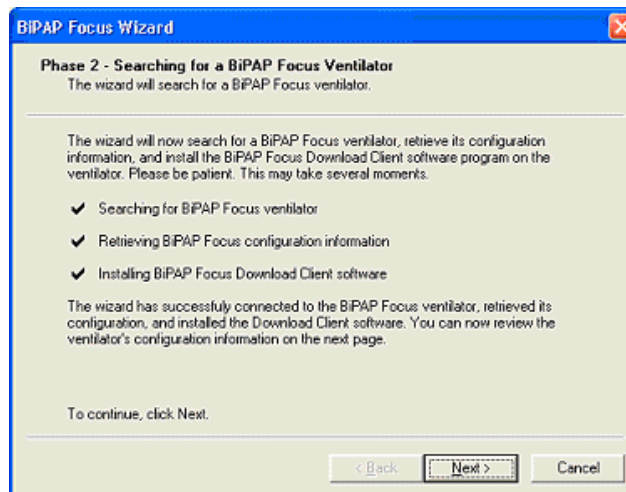

Figure 6-23: Communications Software Connection
- The software connection process dialog box appears identifying the steps including, Searching for the ventilator, retrieving ventilator configuration information, and installing the communications software (Figure 6-23).